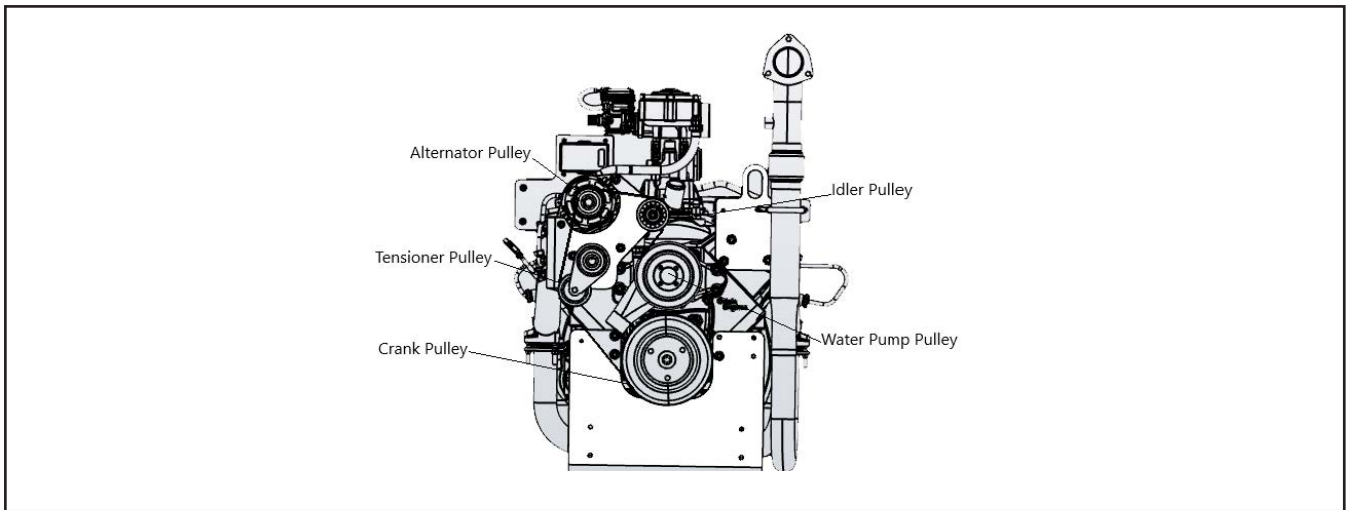

Figure 29 Drive Belt Location
2. Locate the drive belt. See Figure 29.